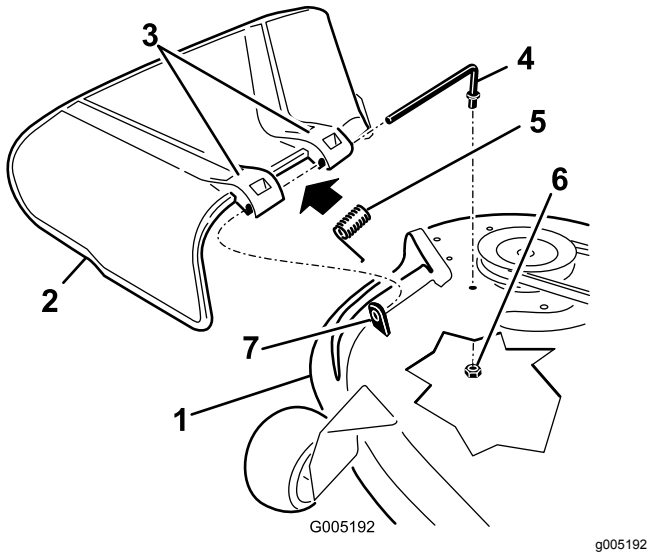

Figure 75
1. Remove the nut (3/8 inch) from the rod under the mower (Figure 75).
2. Slide the rod out of the short standoff, the spring, and the grass deflector (Figure 75).
4. Replace the grass deflector (Figure 75).
7. Slide rod through the second grass-deflector bracket (Figure 75).
9. Secure the rear end of the rod into the mower with a nut (3/8 inch) as shown in Figure 75.